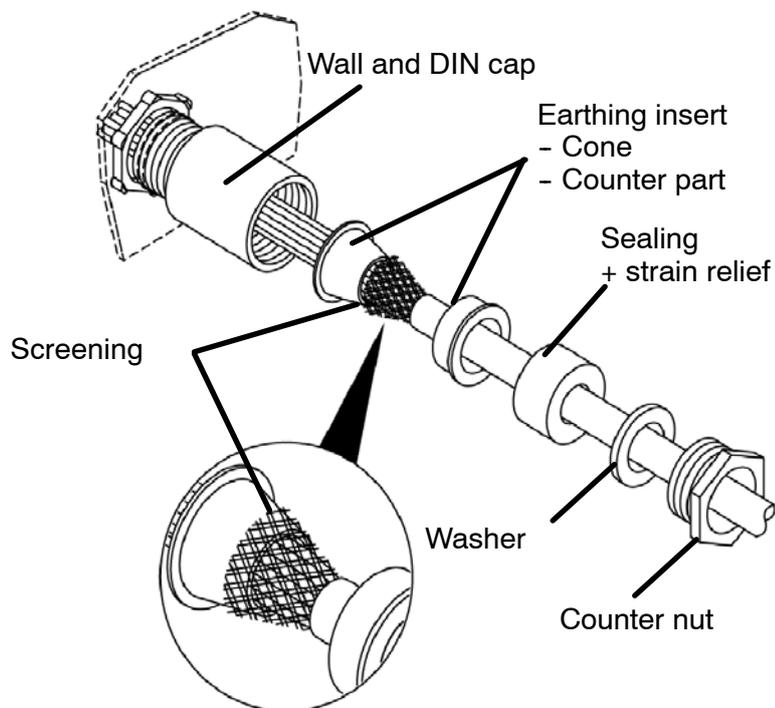

Figure 38: Creating the cable connection
It is essential to follow the sequence (as shown in Figure 38).
- Push the cone inside the screening and against the mating piece. Ensure that the screening is evenly distributed over the cone (see Figure 38).